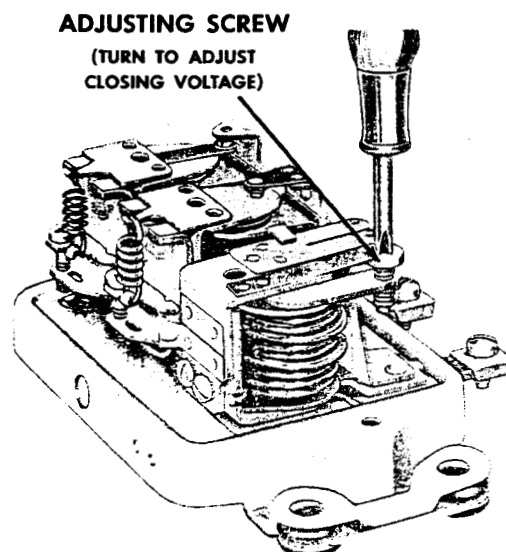

Figure 12—Adjustment of cutout relay closing voltage.
3. Adjust closing voltage (either method) by turning adjusting screw (Fig. 12). Turn screw clockwise to increase setting and counterclockwise to decrease setting.